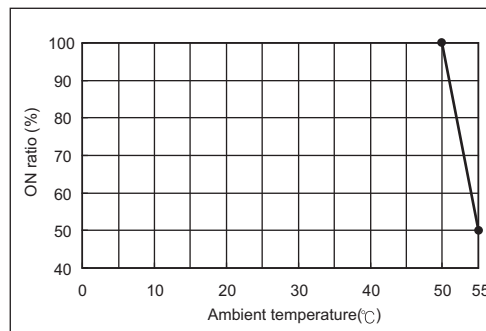

Figure 3.4 Derating chart
Take care so that the ratio of the number of points that external coincidence output (ON) is executed to the number of external coincidence output points of the module (4 points) does not exceed the ON ratio in Figure 3.4.
Take care so that the ratio of continuous comparison No. m ON time setting (Un\G52, Un\G102) (t1) to the time from start of coincidence output to the next coincidence output (t2) in Figure 3.5 may not exceed the ON ratio in Figure 3.4.
**(3) When (CH1 or CH2) is the coincidence output function and (CH2 or CH1) is the continuous comparison function**
Take care so that the addition of the ratio of above (1) "When all channels are the coincidence output function" in the CH where the coincidence output function is set and a value when the ratio of above (2) "When all channels are the continuous comparison function" in the CH where the continuous comparison function is set is divided by 2 may not exceed the ON ratio in Figure 3.4